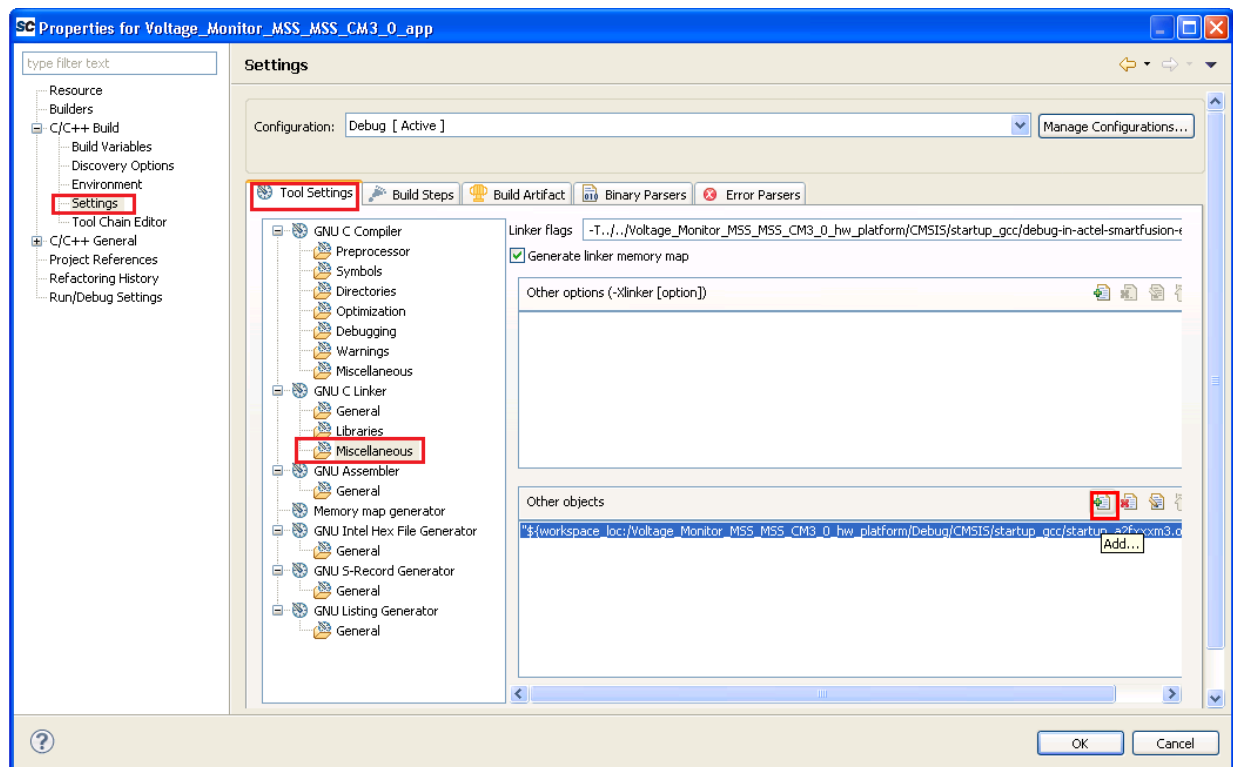

Figure 24 Properties Window
7. Select **Miscellaneous** under **GNU C Linker** in **Tool Settings** tab as shown in Figure 24.